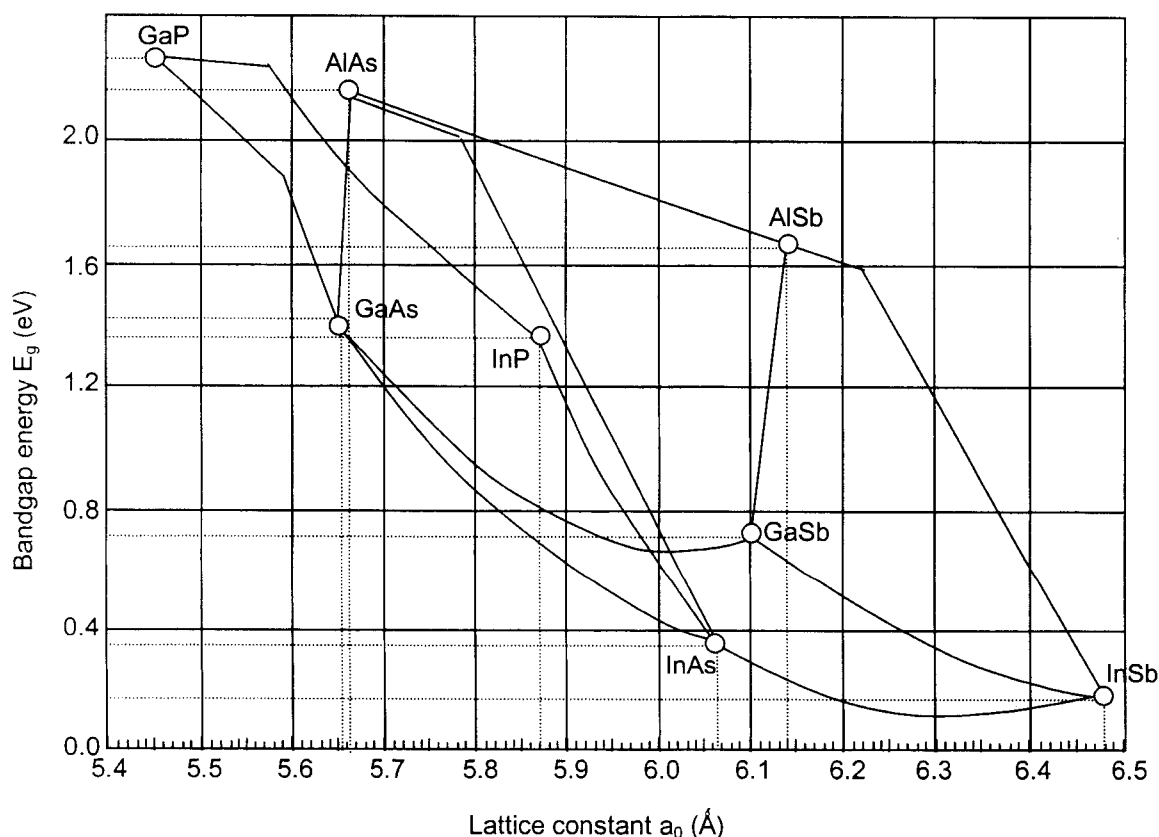

Figure 3.1 Bandgap energy and lattice constant of various III-V materials at room temperature [from Tien, 1988]
- c) Usually the *unstrained* ternary compound InGaAs is grown on top of an InP substrate. From the diagram given in Figure 3.1, *estimate* with an explanation of your reasoning: